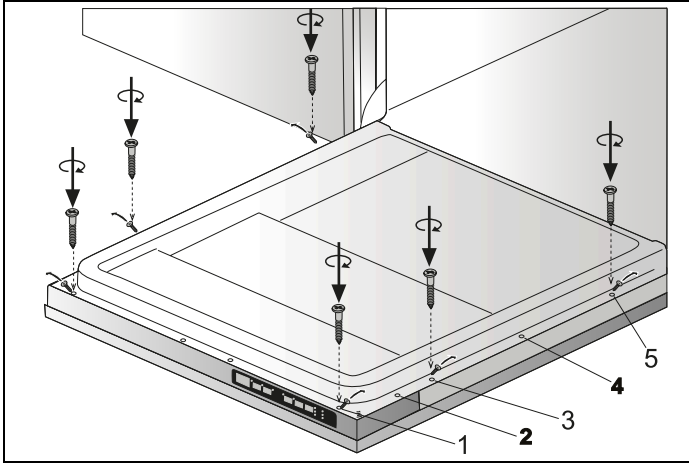

Fig. 28
- 6) The screws located on the wooden door are fitted to the dishwasher at the discharges located on the door outer sheet and are assembled as shown in Fig. 28 .
- 8) As shown in Fig. 28 , Screws  $\varnothing 5/32"$  x  $53/32"$  ( $\varnothing 4\text{mm}$  x 42.5mm) are installed in positions I, III and V.